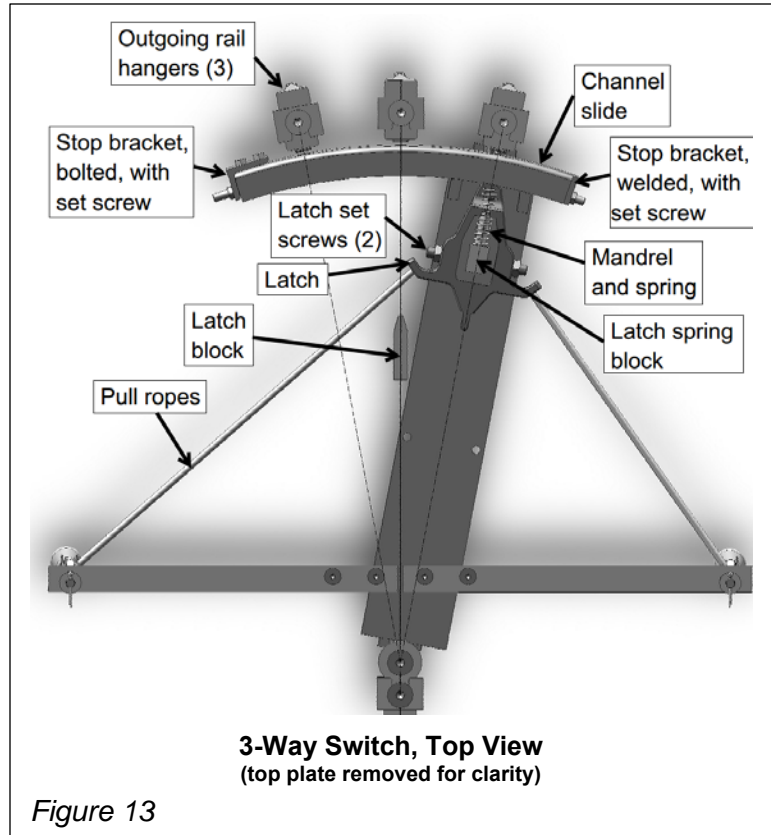

Figure 13
(ref: Fig. 13 and 14, switch in RH position)
- A. Operation from RH to Center position: when the rope attached to the latch arm on the left is pulled, the latch moves back, toward the rail pivot, and disengages the latch nose from the alignment hole in the channel slide (see Figs. 13 and 14). Continued pull on the rope pivots the rail section toward the center of the switch.